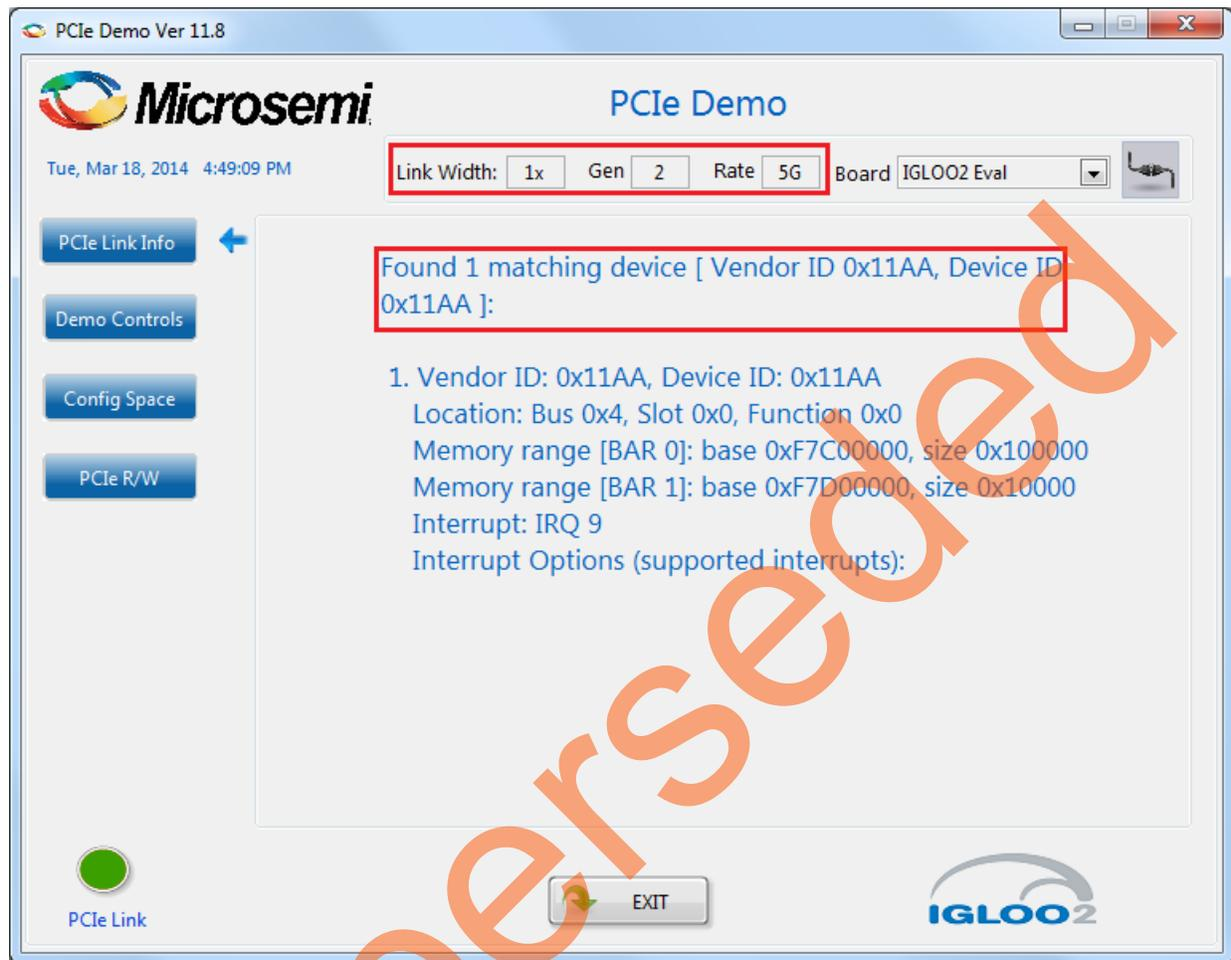

Figure 61 • Version Information
3. Click the **Connect** button at the top-right corner of the GUI. The messages are displayed on the GUI as shown in Figure 61.